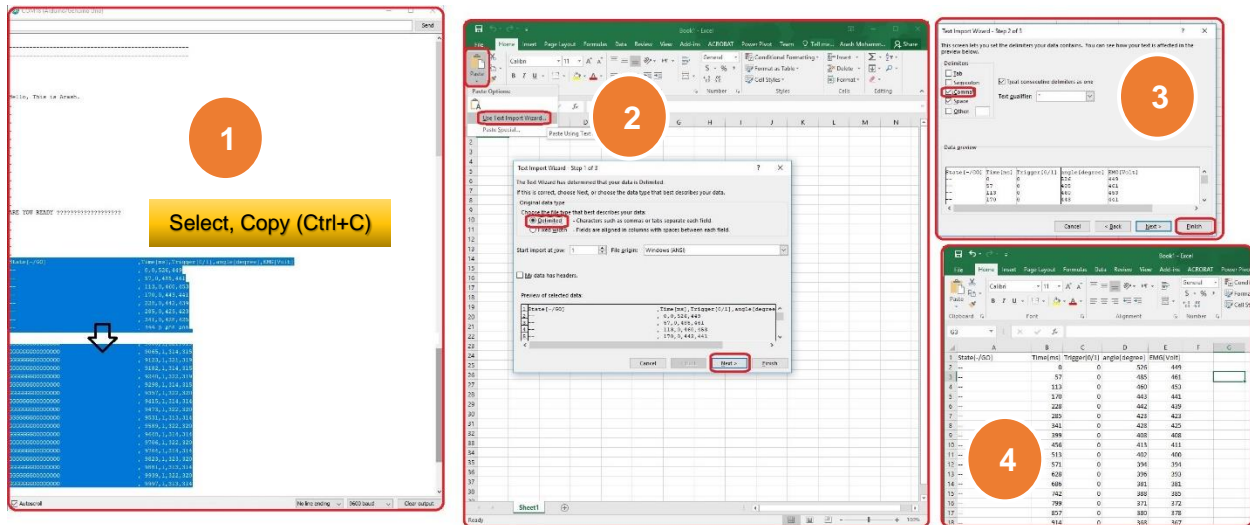

Figure 5: Steps for copying to excel for plotting EMG and angle results.
- 8) Copy the data from the Serial Monitor window into MS Excel (figure 5).